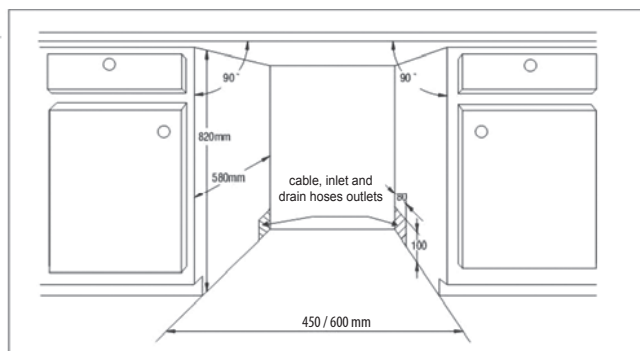

Figure 1. Dimensions and general view of a recess for the dishwasher installation.
1. Choose a convenient place, where water is supplied and discharged. Connect the inlet and drain hoses (Fig. 1).